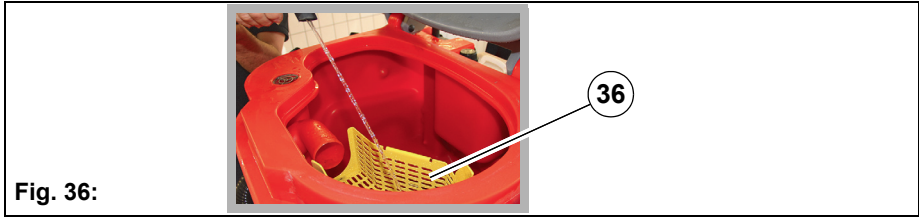

**Fig. 35:**
2. Open fastener at drain hose **Fig. 35-A** and remove hose.
3. Open the tank cap **Fig. 35-B** of the waste water tank.
- Open the tank cap until the support **Fig. 35-C** engages.
4. Clean the waste water tank thoroughly with the water hose/spray nozzle **Fig. 35-D**.
- Release the support **Fig. 35-B** with your right hand and close the tank cap.